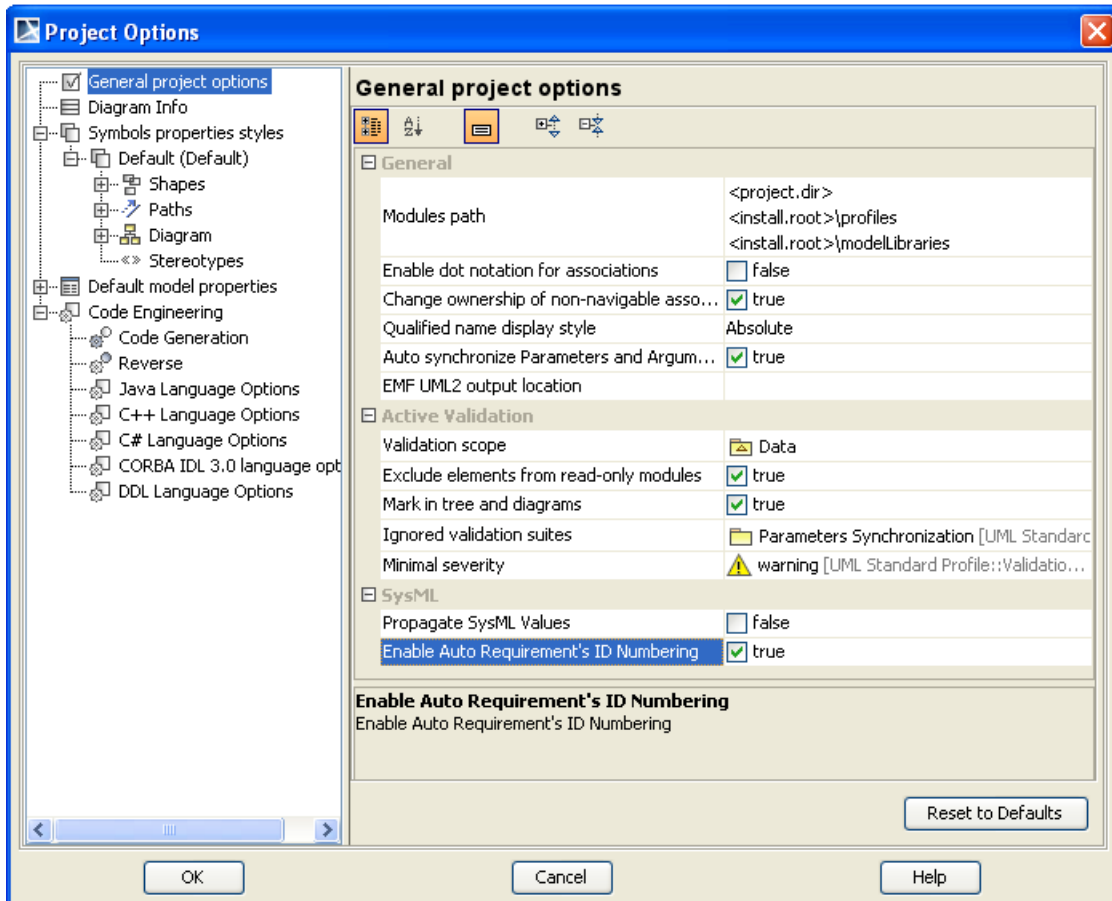

Figure 144 -- Automatic Requirement Numbering in Project Options Dialog
1. Click **Options > Project** on the main menu. The **Project Options** dialog will open (Figure 144).
2. Under the **SysML** group, make sure that the **Enable Auto Requirement's ID Numbering** option is selected (selecting the check box means 'true') (Figure 144).